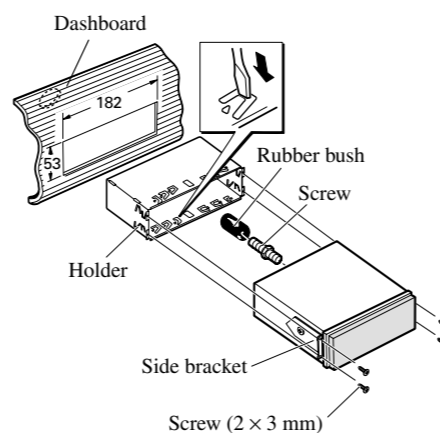

Fig. 12
2. **Install the unit into the dashboard. (Fig. 12)**